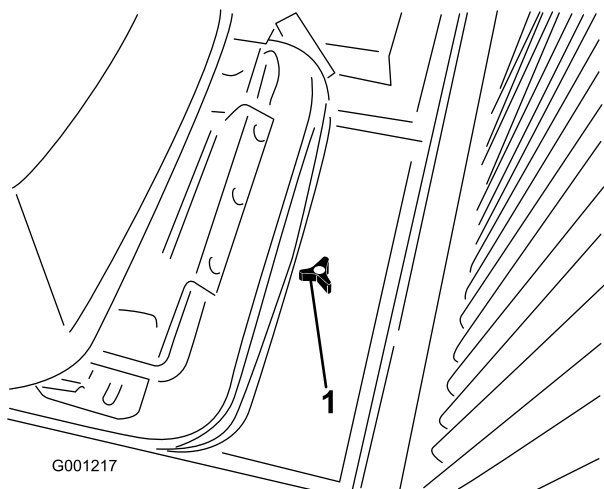

Figure 32
1. Loosen the knob and remove the access cover at the rear of the seat-mounting plate (Figure 32).